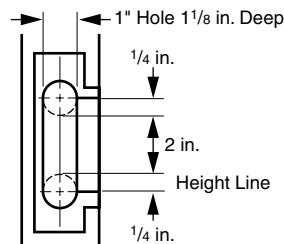

Figure 13.59 Clear area between holes.
6. Mark vertical and height lines on the jamb exactly opposite the center point of the lower latch hole. Mark a second horizontal centerline 2 inches above the height line for the deadbolt hole. Bore a 1-inch-diameter hole 1½ inch deep and ¼ inch below the height line. Bore a second hole to the same dimensions ¼ inch above the second horizontal line. Clear out the area between the holes for the strike box (Fig. 13.59).